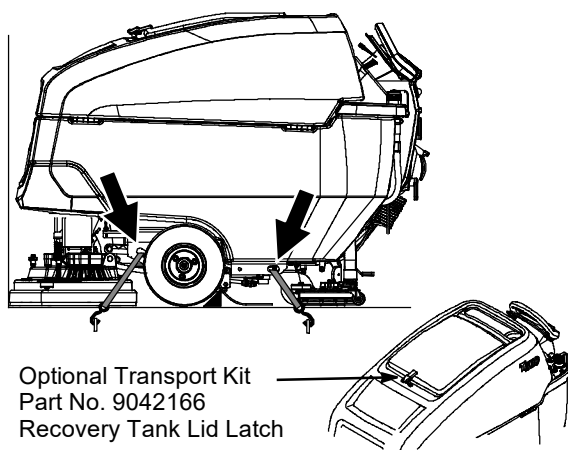

FIG. 148
4. Place a block behind each wheel (Figure 148).
5. Using tie-down straps, secure the machine using the four tie-down brackets located on the machine frame (Figure 148). It may be necessary to install tie-down brackets to the floor of your trailer or truck.